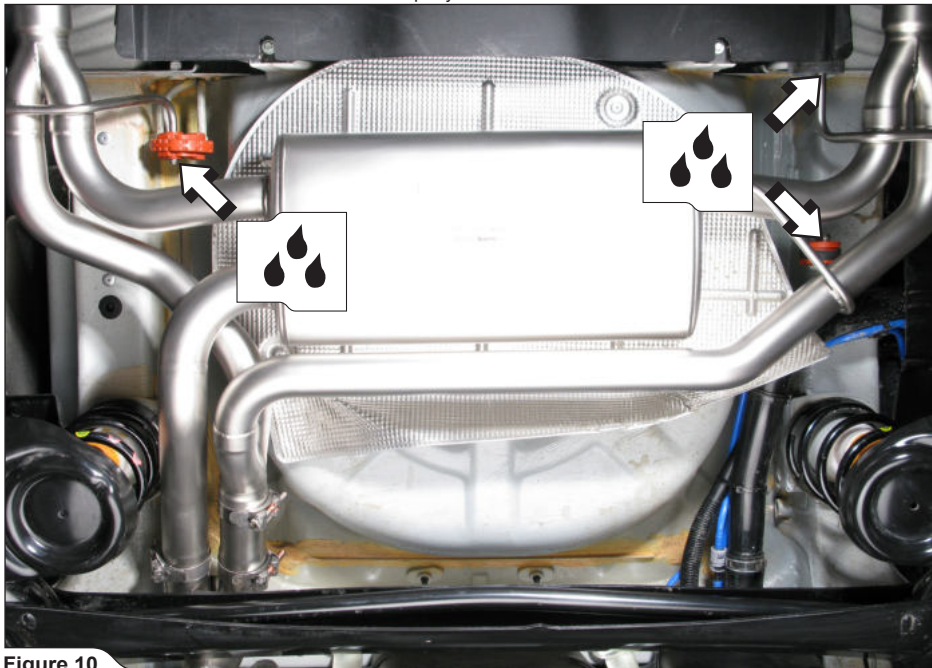

Figure 10
6. Slide the muffler onto the collector and hang the muffler onto the original rubber brackets. Center the muffler in respect to the rear bumper's tail pipe outlets (**Figure 10**).